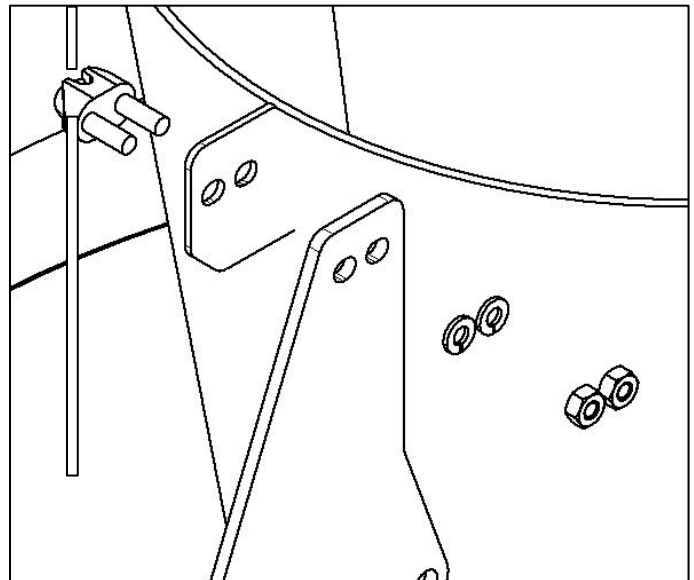

Figure 3: Cone U-bolt Cable Clamps
3. To replace a cone, disconnect the U-bolt cable clamps from the cone (**Figure 3**) and remove the cone. Leave the clamps attached to the cables.
7. Mark the cable at each U-bolt cable clamp, and remove the clamps from the cable. (See **Figure 3**.)